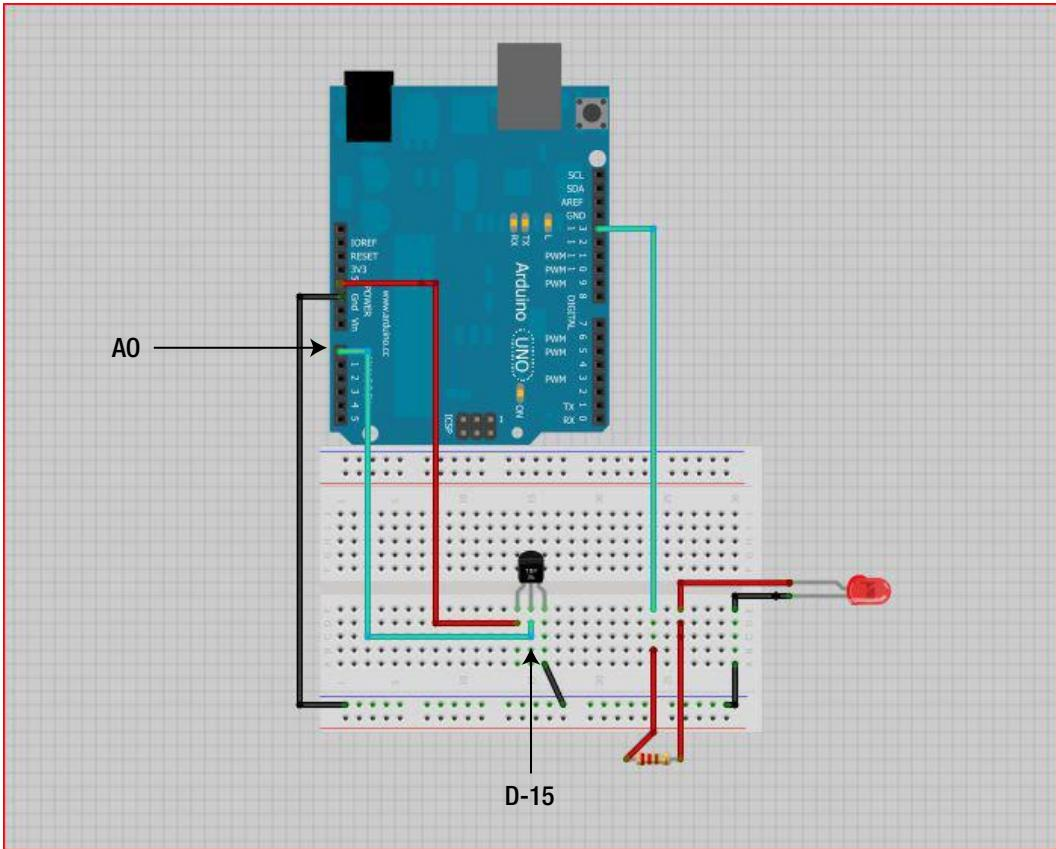

Figure 11-8. Connect the analog input pin 0 of the Arduino to the center pin on the TMP36
- Finally, you'll use your last jumper wire to connect the Vout pin on the TMP36 to the analog 0 header on the Arduino, as shown in Figure 11-8. Insert one end of the jumper wire into Row 15, Column D (D-15) and the other end into the A0 header on the Arduino. (We used a green wire but any color will work.)